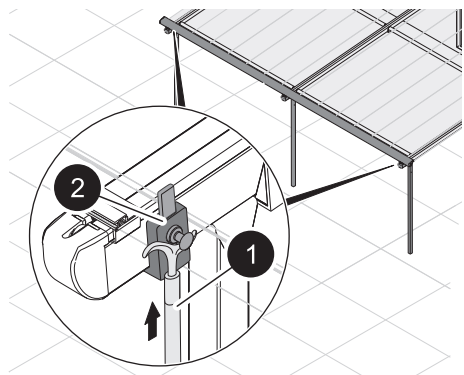

Fig. 18: Apply stop block
4. Insert the left and right stop blocks with the hook rod (fig. 18/1). Push up the fabric stop block (fig. 18/2).